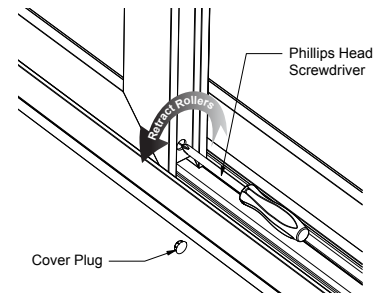

Figure 3 — Retract Rollers
2. Retract the rollers completely. The adjustment screws can be accessed by removing the small cover plug at the lower edge of each side of the active panel. Keep the cover plugs to reinstall later. Insert a Phillips head screwdriver into the hole until the adjustment screw is engaged. Turn the screw counter-clockwise to retract the rollers (**Figure 3**).